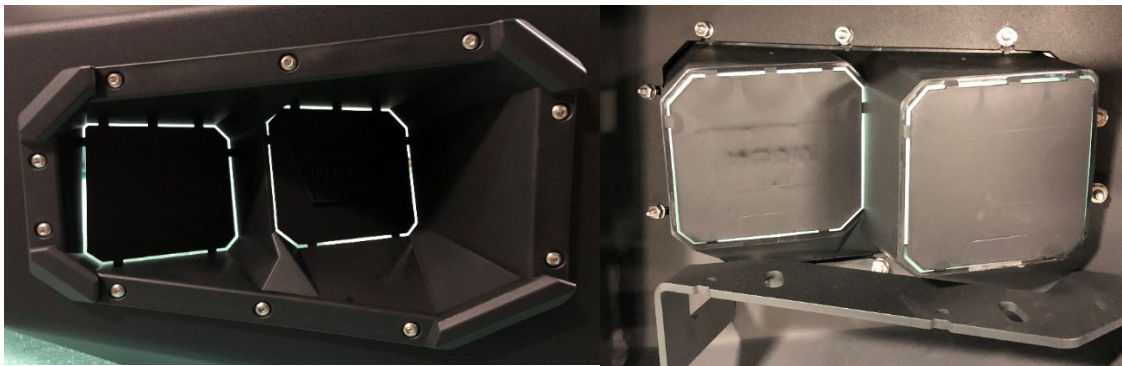

Figure 21-22
20. Install the two light inserts (94888 and 94889) into the bumper and fasten them with the provided 10-24 stainless steel button head screws, flat/lock washers, and nuts (50259-HW). (Figure 21-22)